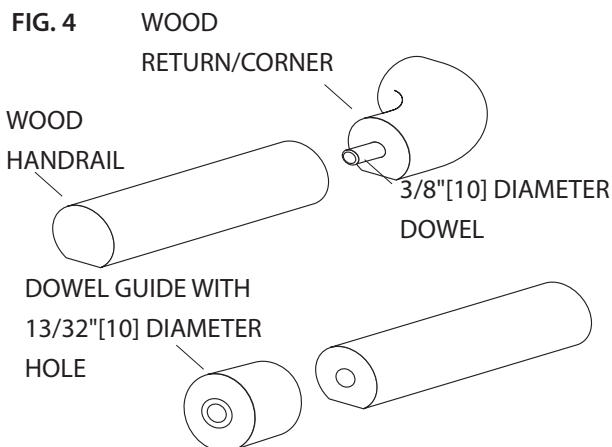

FIG. 5
5. Wrap Teflon tape around each threaded rod on the bracket. Slip stainless steel cover over the bracket post. Screw brackets into the threaded inserts and align mounting flanges. See Figure 5.